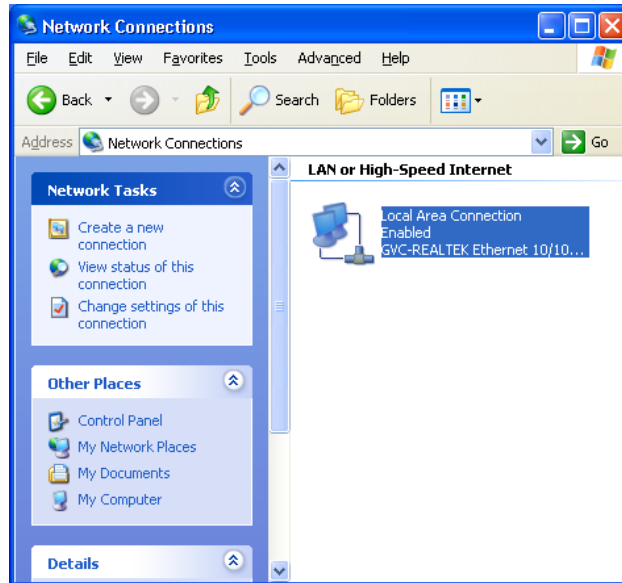

Figure 3. The Network Dialog
4. On the host PC, open the Windows Control Panel and double-click the Network and Internet Connections icon. The Network Connections dialog box appears (Figure 3).